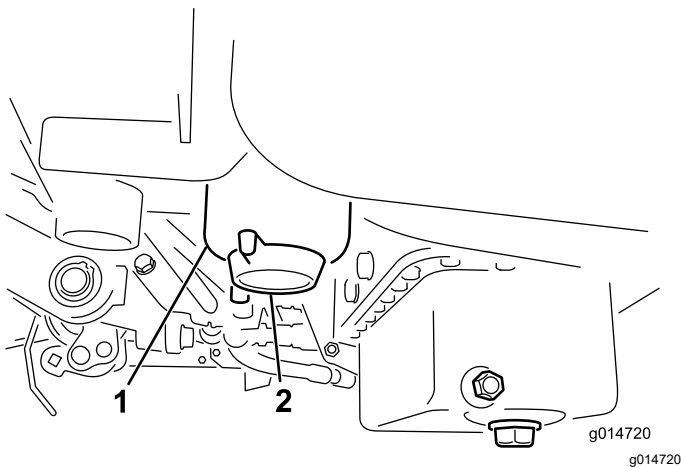

Figure 39
2. Clean the area where the filter canister mounts (Figure 39).
4. Open the filter drain plug (Figure 39).